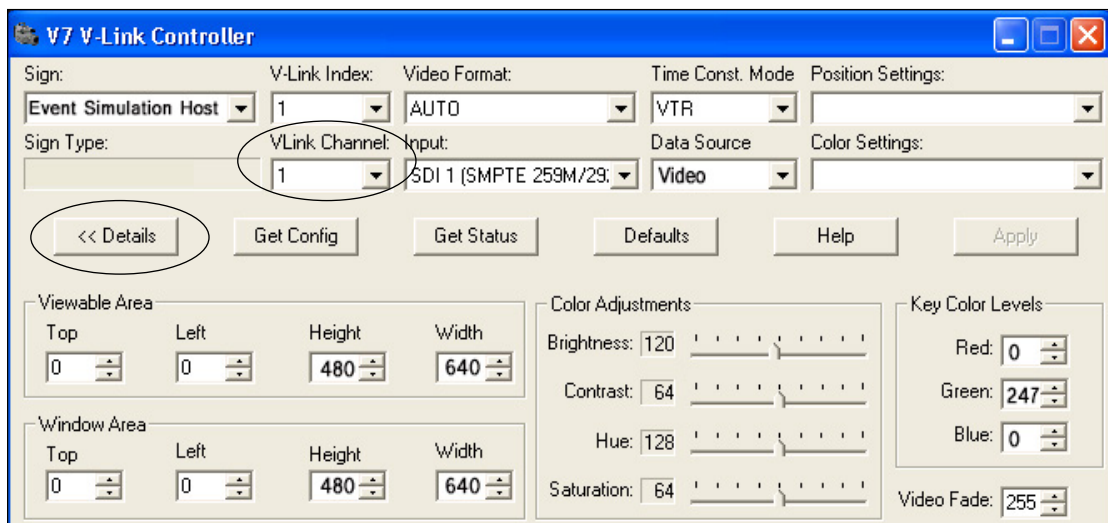

Figure 22: Verifying VLink Channel
4. Confirm the VLink Channel field is set to 1, and click the Details button. Refer to Figure 22.